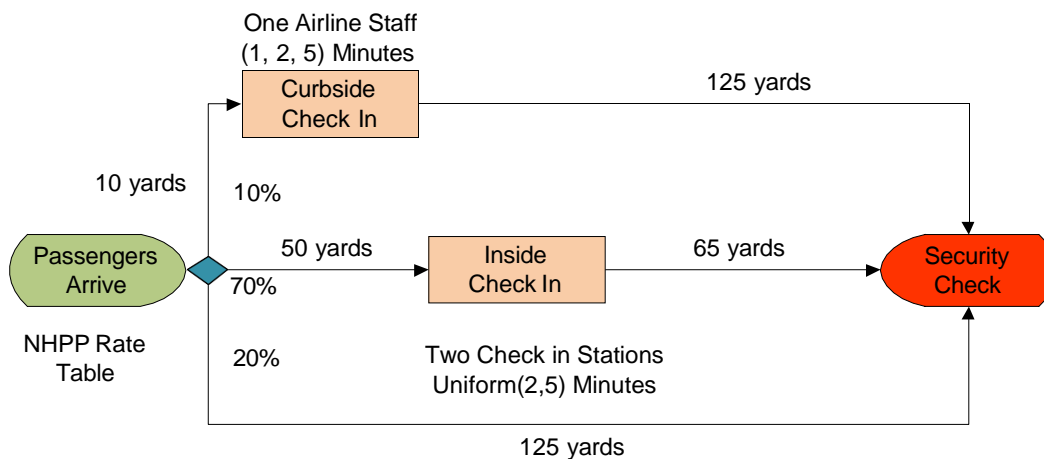
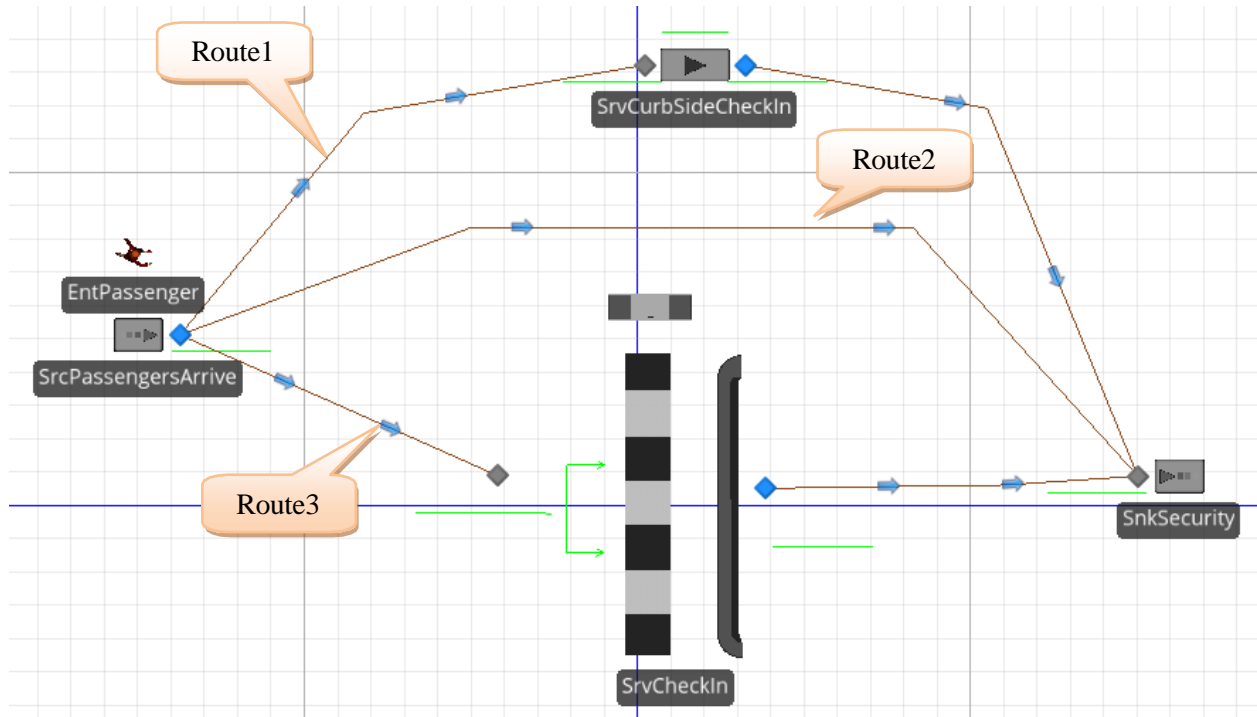

Figure 4.1: Modified Airline Check-in Process
Figure 4.2: Creating Different Routing Paths
Step 1: Delete the `EXPERIMENT` object in the prior chapter model by right clicking on the Experiment in the [Navigation] Panel.²⁸ We will embellish the previous airport model to allow a choice of three different routes for passengers arriving at the airport. Passengers who need to check bags and get tickets can either check in at the curbside station (10%) or check in at the main station inside the airport (70%), while some passengers can proceed directly to the security check point (20%). Refer to Figure 4.1 which depicts the modified airline check-in process to be modeled.
Step 2: Modify the model from last chapter to include the new curbside check-in (SERVER) as well as the direct path (i.e., Route 2) from the arrivals to the security gate as seen in Figure 4.2. Specify the properties according to description in Figure 4.1.